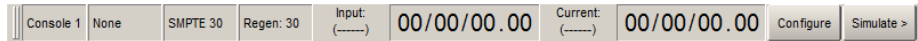

Figure 28.5. The Timecode Toolbar
3. Press Timecode Toolbar. The Timecode Toolbar will open; see *Figure 28.5*, "The Timecode Toolbar".